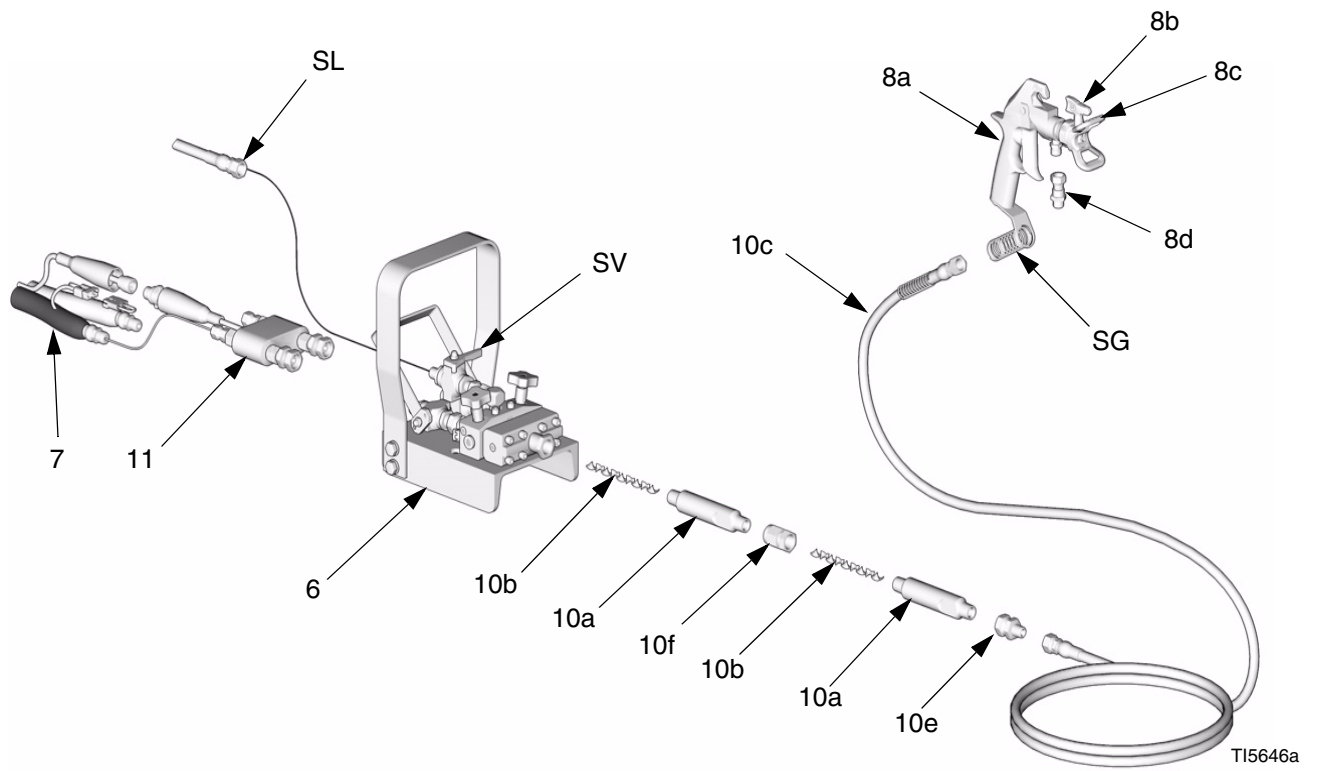

FIG. 9: Remote Mix Manifold, Static Mixers, Whip Hose, and Gun
- b.** Connect resin and hardener hoses to FTS (11) inlets. Connect hose sensor cable (SC) to FTS cable.
- a.** See FIG. 9. Connect fluid temperature sensor (11) to inlets on remote mix manifold (6). Resin and hardener fittings are sized to prevent connection errors.
- b.** Connect solvent flush line (SL) to center ball valve (SV) of remote mix manifold (6). This valve prevents material from contaminating solvent system, and isolates solvent system for service.
- a.** See FIG. 9. Connect two static mixer tubes (10a) with mixer elements (10b), using swivel union (10f). Screw into mix manifold (6) outlet. Ensure that the flow arrows point downstream.
- a.** See FIG. 9. Connect gun swivel (8d) and gun (8a) to whip hose (10c).